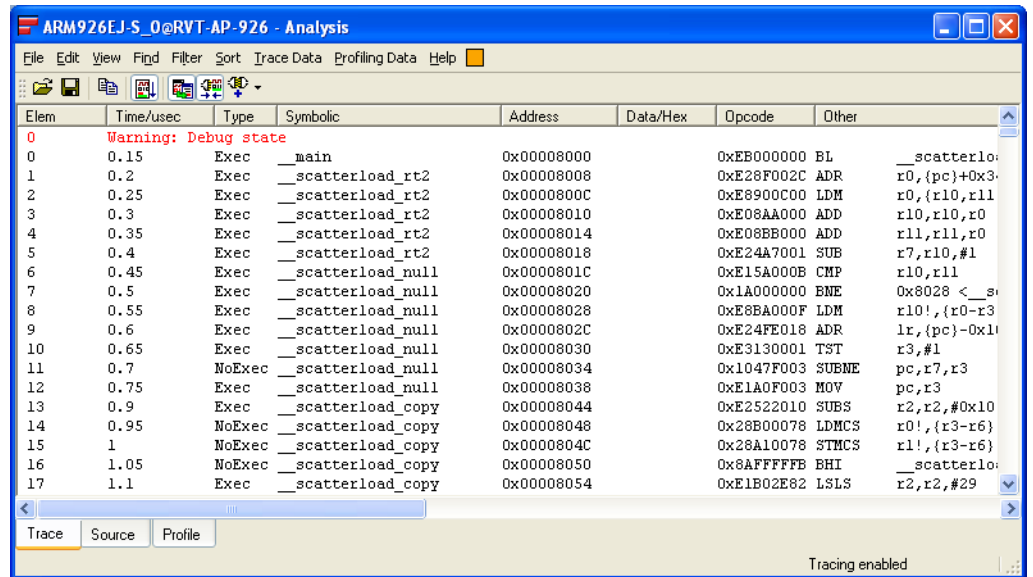

Figure 10-71 Trace captured around a trigger
5. When the trigger is activated, the captured trace is displayed in the **Trace** tab of the Analysis window. Figure 10-71 on page 10-70 shows an example: